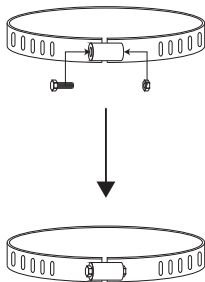

Figure 3-2 Schematic diagram of hoop ring
(2) Use the nut and screw to lock the hoop ring in place, as shown in Figure 3-2: